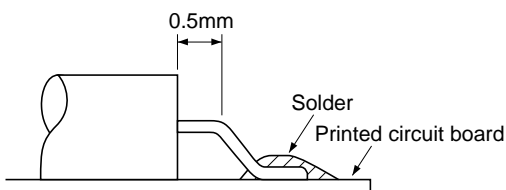

Figure 5
- (1) Bend the lead so that the lead remains straight for more than 0.5mm from the case when soldering after bending a lead. If not, the glass may be cracked (see Figures 5 and 6).